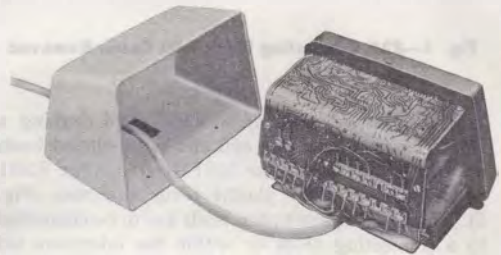

Fig. 3—108A Loudspeaker Set with Cover Removed
4.05 The plastic housing on the 108A loudspeaker set is held in place by two screws located on the bottom of the set. To remove the plastic housing, remove the two screws from the bottom of the set and slide the cover off the chassis (Fig. 3).